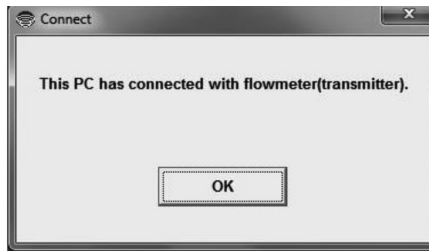

Fig.11
- ⑧ When associated equipment and devices are connected incorrectly, proper communications will fail to take place.
- ⑨ Upon completion of connections, a message box like the one in Fig. 11 appears. Click "OK" button.